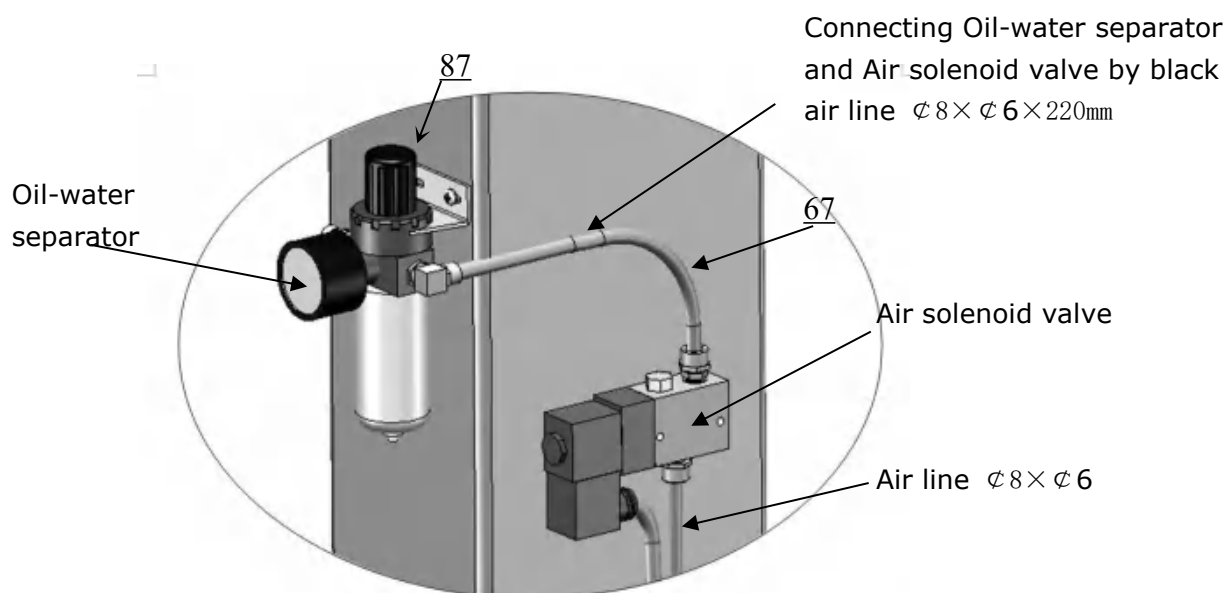

Fig. 36
4. Connecting Oil-water separator and Air solenoid valve by air line (**See Fig. 36**).